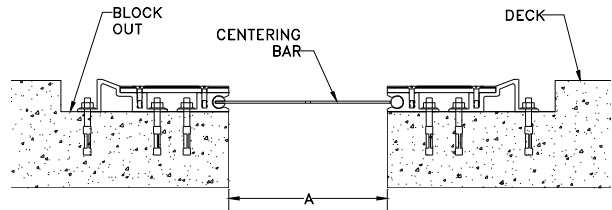

Figure 8
STEP 4. Select a centering bar, and insert one of its polymer spheres into the track of one of the SCP1's. Insert the other sphere into the opposite SCP1's track (Figure 8). Repeat this procedure for each centering bar. Ensure that the centering bars are installed at a diagonal and are parallel to one another.